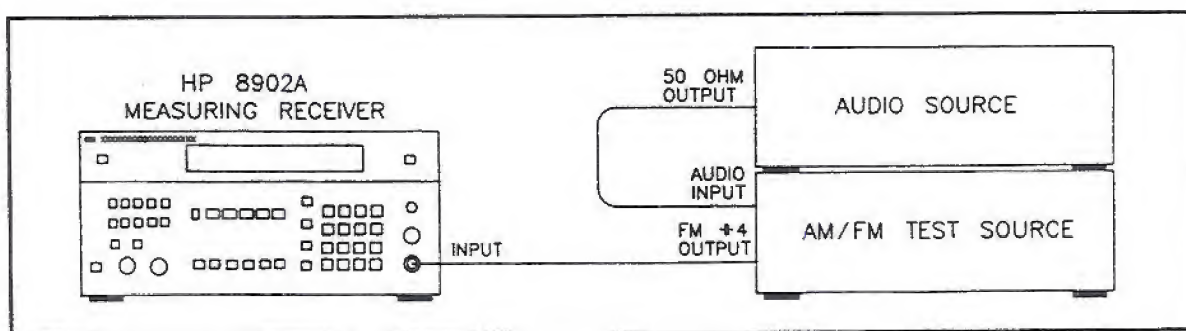

Figure 4-10. Measuring Receiver Incidental AM Verification Test Setup
- Connect the FM divide-by-4 output of the AM/FM test source to the input of the measuring receiver and the 50 ohm output of the test oscillator to the audio input of the AM/FM test source, as shown in Figure 4-10.